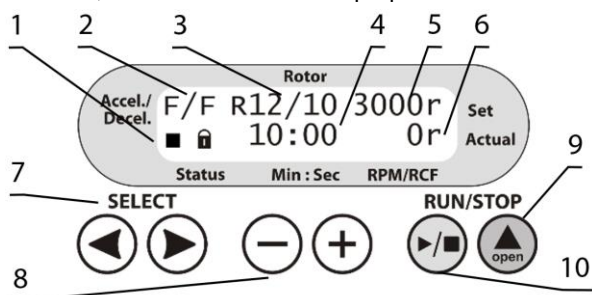

Figure 3. LMC-56 control panel.
- Check the power cable for any signs of damage. Connect the power cable to a properly grounded mains socket. Set the power switch on the unit to position **I** (on). Press the **▲ Open** key (fig. 3/9) and lift the lid by hand.
- Acceleration and deceleration modes (fig. 3/2);
- Set rotor speed in RPM or RCF¹ (fig. 3/6);
- Status icons of rotor, ■ stopped or ► running (fig. 3/1, first symbol);
- Status icons of lid, ■ closed or ▣ open (fig. 3/1, second symbol);
- Set time of centrifugation, in minutes and seconds (fig. 3/4);
- Actual rotor speed, in RPM or RCF (fig. 3/6).
- 5.4 Press the **▲ Open** key (fig. 3/9) and lift the lid by hand. Check the rotor, buckets for any signs of wear or corrosion, and replace if necessary. Insert EVEN number of tubes/microtest plates in rotor one opposite another. The loading in the opposite tubes must be equal.
- 5.5 **Setting parameters.** Use the **SELECT ◀** and **▶** keys (fig. 3/7) to choose a parameter and the **-** and **+** keys (fig. 3/8) to modify it. Selected parameter will be blinking. Program automatically saves any changes made after no keys are pressed for 2 seconds.
- 5.5.1 Acceleration modes (fig. 3/2, first letter). Three modes of acceleration are available, slow (shortened to **S**), normal (**N**) and fast (**F**).
- 5.5.2 Deceleration modes (fig. 3/2, second letter). Four modes of deceleration are available, free brake (**0**), slow (**S**), normal (**N**) and fast (**F**).
- 5.5.3 Installed rotor (fig. 3/3). Combinations of rotors, adapters and their maximum allowed speed is listed below in the table below:
- 5.5.4 Rotation parameters (fig. 3/5). Rotor speed can be set in RPM and in RCF, denoted after numeric value by **r** and **g**, accordingly. Values convert after changing units. RCF depends on the installed rotor, as shown in Table 1.
- 5.5.5 Time setting (fig. 3/4). Select duration of centrifugation in minutes, step 1 minute.
5.6 Close the lid carefully and smoothly until a clicking sound is heard. Icon  appears on the display (fig. 3/1).
5.7 Press the **RUN/STOP** / key (fig. 3/10) to start centrifugation. Icon  (fig. 3/1) and actual speed (fig. 3/6) are shown in the lower line of the display. The timer (fig. 3/4) starts the countdown after set speed is achieved.